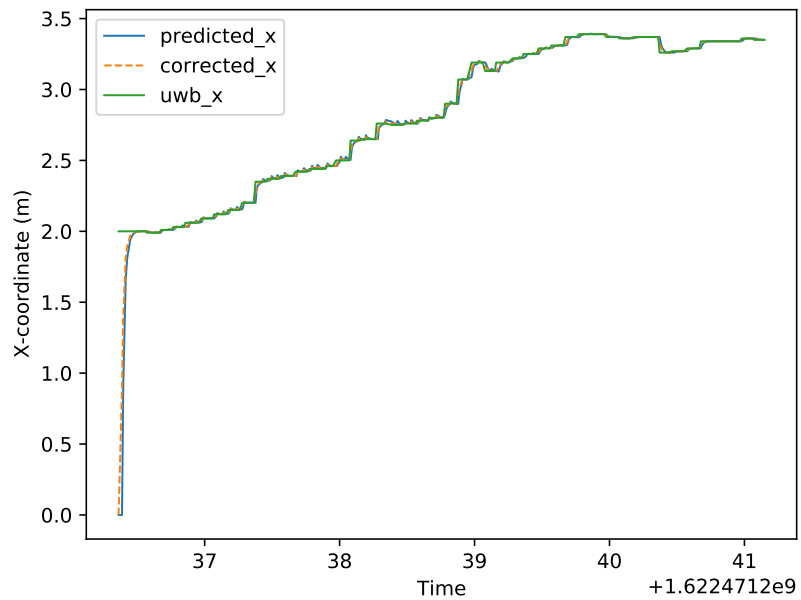

Figure 6: Plot from script *kfMergePlot.py*
1. let the robot move forward 1m, as shown in Figure 6 and 7